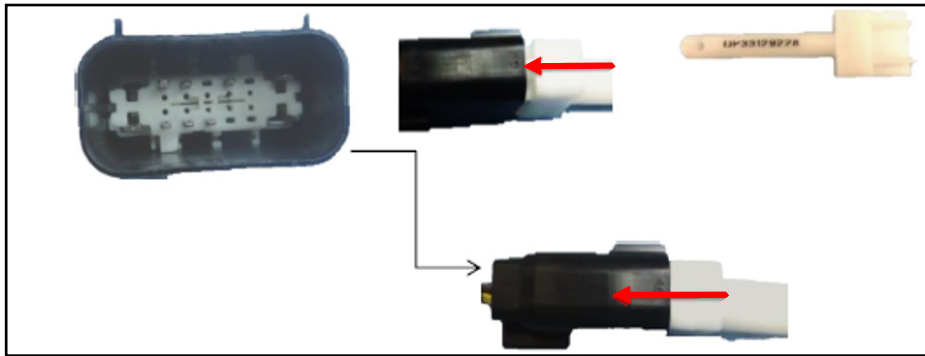

fig. 8a
4. Use the TPA Insertion tool to set it in the locking position. The device connector for EVCC, D3818-3, is to be using the TPA Pick tool, hook and pull form one end to release the TPA (fig. 8a,b,c,d)